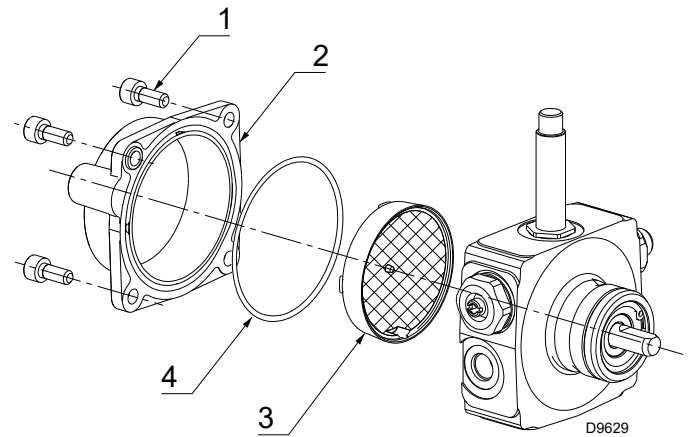

Fig. 8
- Use a hexagonal wrench to loosen by 4mm the screws 1) (Fig. 8) fixing the cover 2).